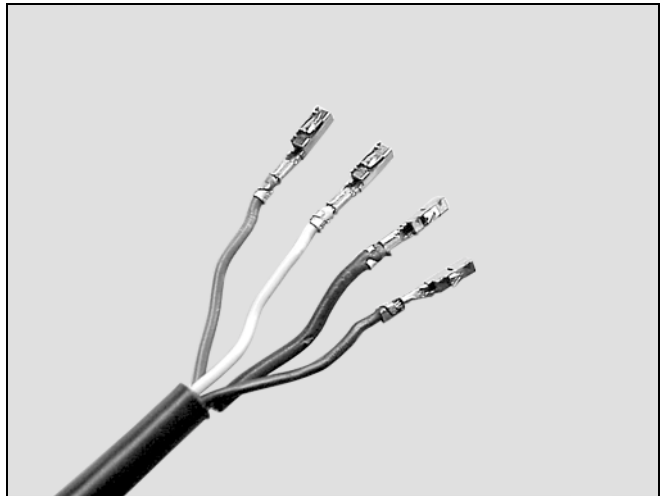

Figure 5
8. Install the new terminals (part number: A 008 545 55 26) to the auxiliary input harness wires using the appropriate tools from the wiring harness repair kit (part number 220 589 01 99 00) (Figure 5).